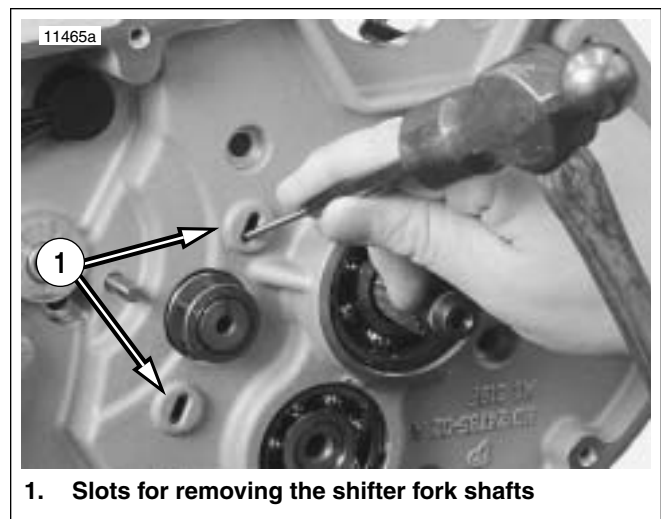

Figure 6-56. Removing Shifter Fork Shafts
- See Figure 6-56. Remove shifter fork shafts by inserting a small flat punch in the slots and tapping on the end of each shaft until it falls free.